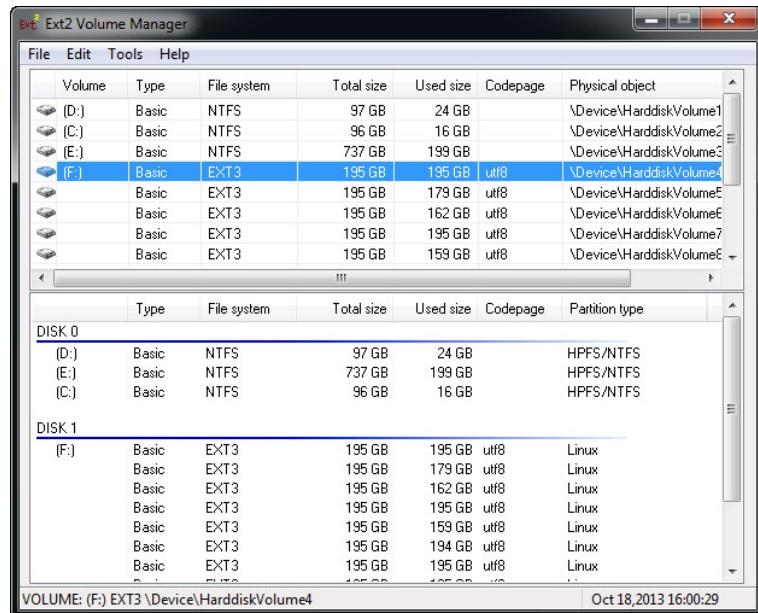

Figure 5-4
3. If you like to use the maps created yourself, overwrite the files at `:\\GV folder\\GIShtm-User`, and select **User Defined** from the “Please Select a Map API” drop-down list (Figure 5-4).